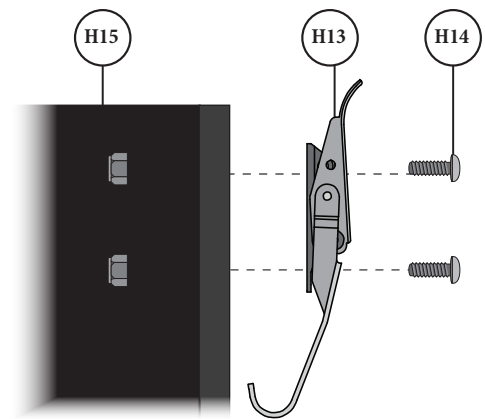

FIG.5
Align the Latches (H13) onto the holes on either side of the Stand Body (F) and secure them in place using two Pan-Head Screws (H14) and Nylock Nuts (H15) [FIG 5].